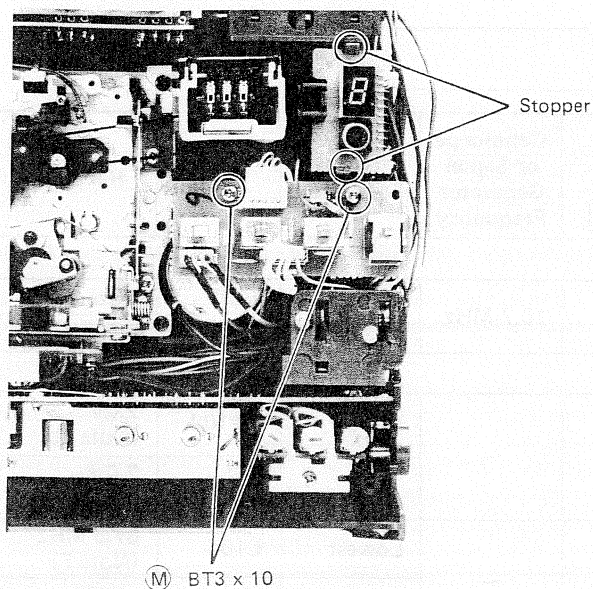

Fig. 15
- 1) Remove (M) (two) screws fixing switch PC board shown in Fig. 15.
- 2) Remove (N) (four) screws.